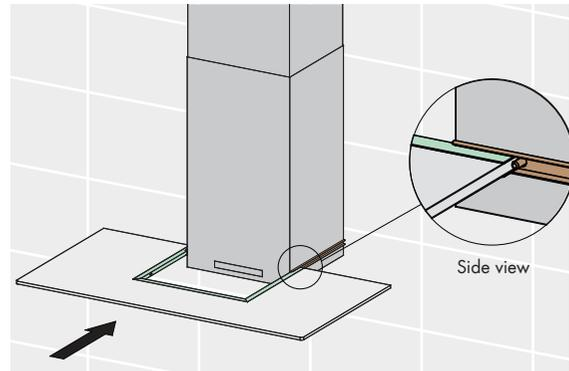
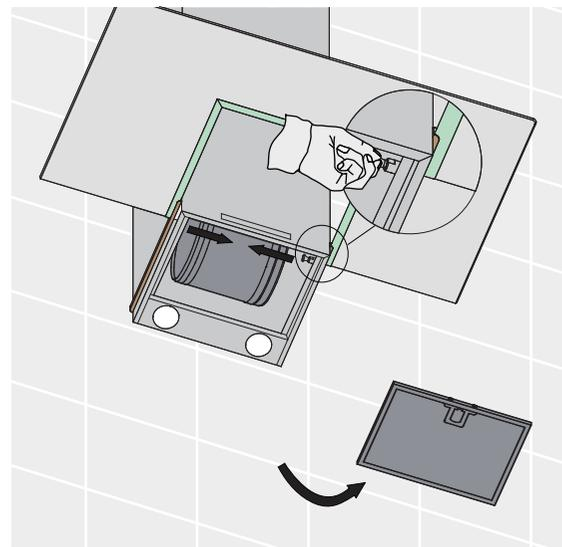

Fig. 17
Fig. 18
10. Insert the glass into the slot on the main body as shown in Fig. 17, then pull the latches to inner side, same time push the glass in place (Fig. 18).
- The control switches are located on the front panel of the unit. See Fig. 18 below.